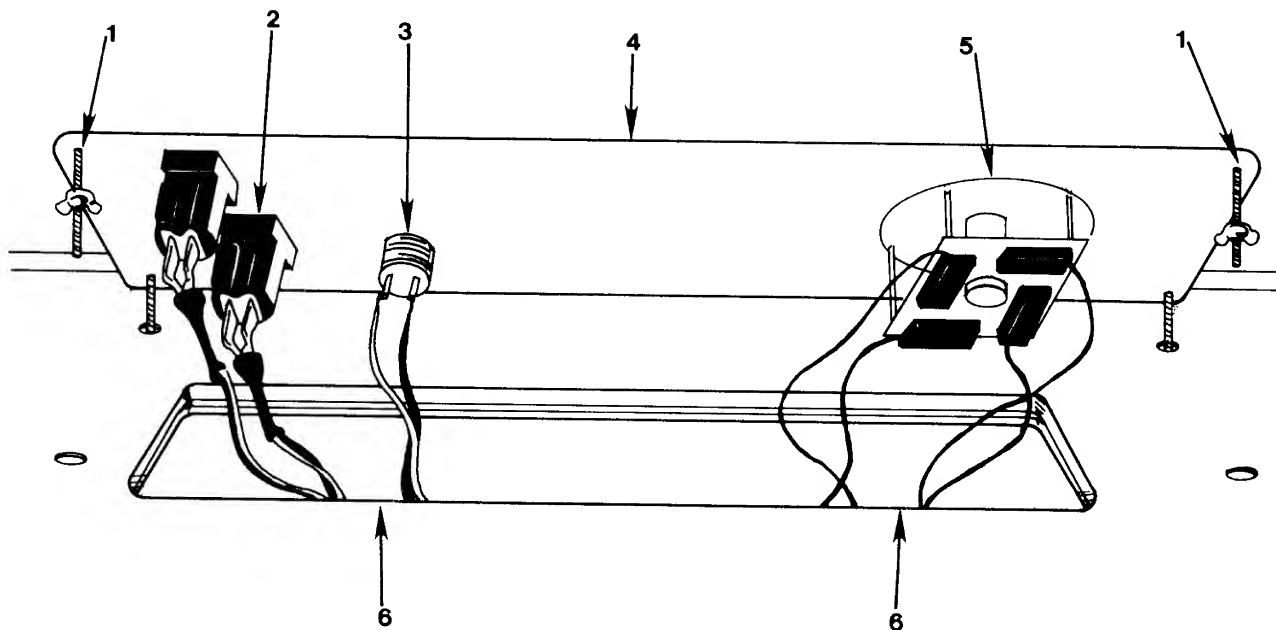

Figure 4: Control Panel (Early Production)
A. To Service Early Production Control Panels (see Figure 4).